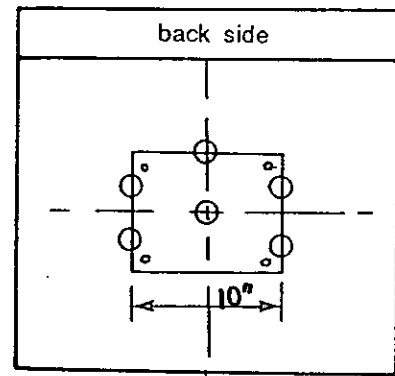

Fig. 4
1. Turn chair upside down and locate center lines on chair bottom as shown in fig. 4. Position upper rocker plate on center lines and mark holes. Remove swivel and drill pilot holes for lag bolts.